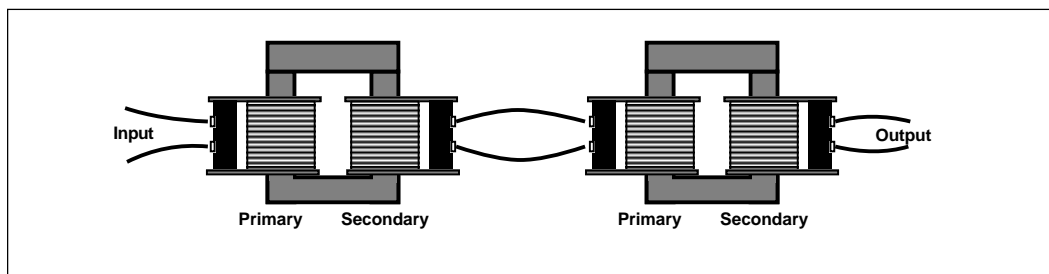

Figure 4
8. If there are more than one PASCO Coils Sets in the laboratory, set up a series of transformers such as the one diagrammed below in Figure 4. Measure input and output voltages, input and output currents at various places in the chain. Keep careful track of your measurements and draft your observations based on these measurements.